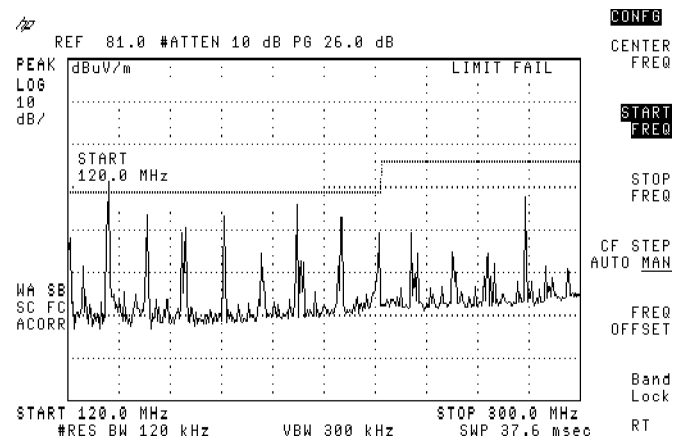

Figure 3-55. Entering a New Start Frequency
25. Press 120, **(MHz)** to enter a start frequency of 120 MHz. See Figure 3-55.